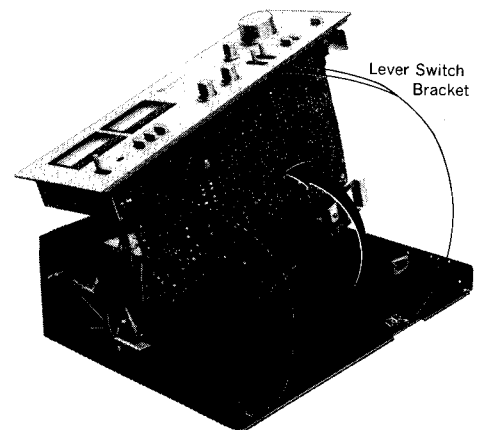

Fig. 6
8. Set the printed circuit board on the chassis as indicated in Fig. 6.
10. Mount the lever switch bracket inside the chassis prior to resetting the front panel. (Fig. 6).